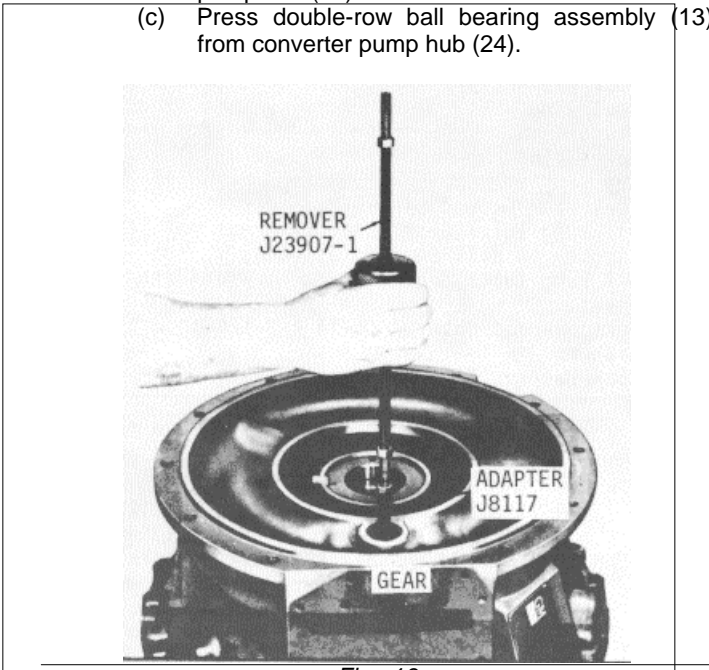

Fig. 16
- (b) Install the slide hammer remover J 3187 and adapter J 4857 (Fig. 1) in the threaded hole in the oil pump idler gear shaft (Fig. 16).
- (c) Remove the shaft, being careful that the oil pump idler gear does not drop out of the housing (Fig. 16).